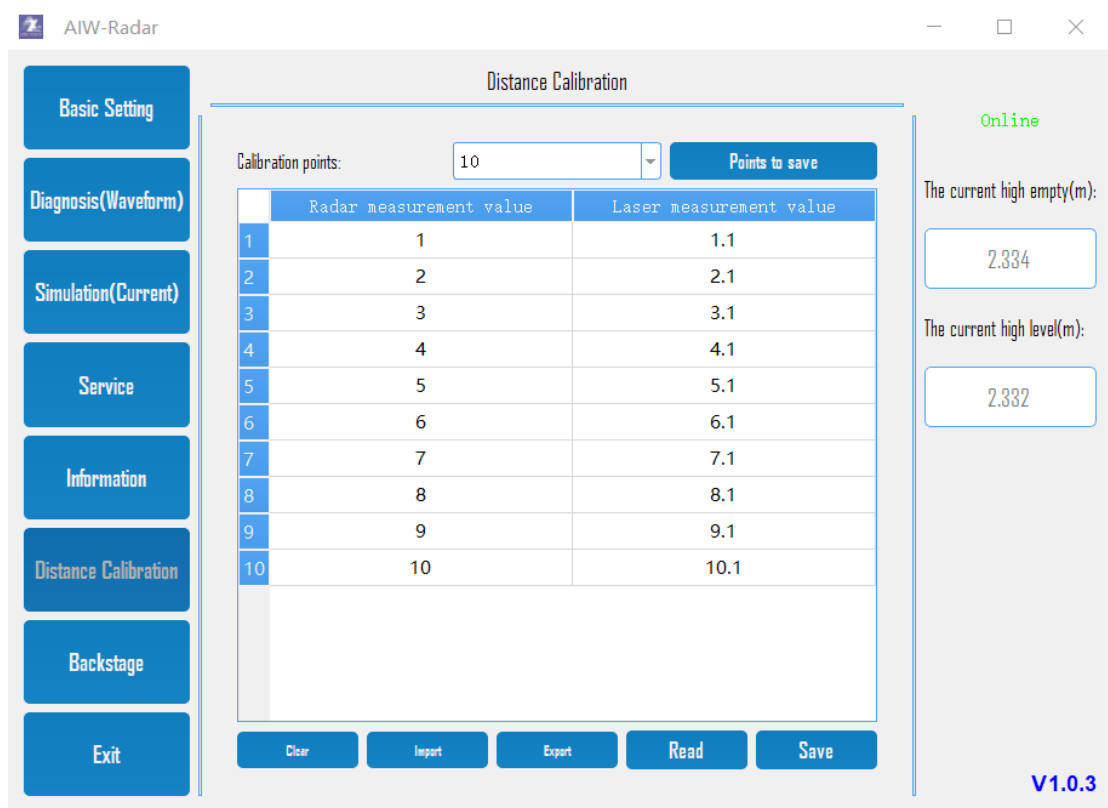

Figure 8.
- Click on the "distance calibration" button on the left side of the main interface, and the main interface will display the distance calibration parameter information of the device. The distance can be calibrated at multiple points according to the need. As shown in Figure 8.